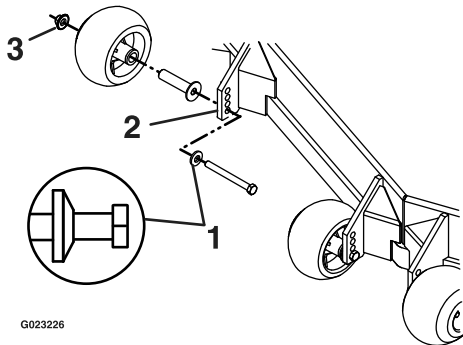

Figure 9
10. Torque the 3/8-16 nyloc nut to 50–55 ft-lb (68-75 N-m) (Figure 9).